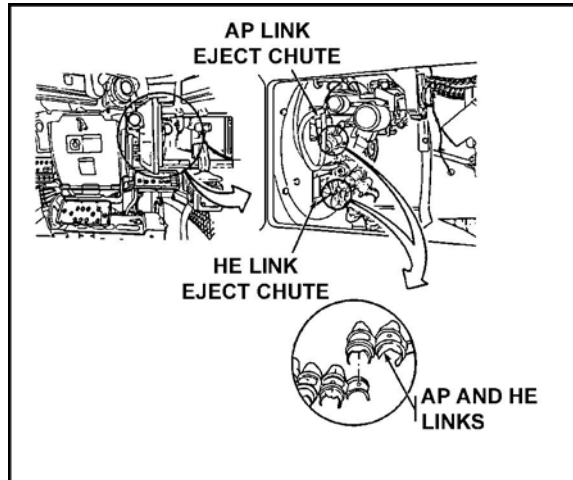

Figure 2. AP link eject chute and HE link eject chute.
- g. Disconnect the AP and HE links from the links in the AP and HE link eject chutes (Figure 2).